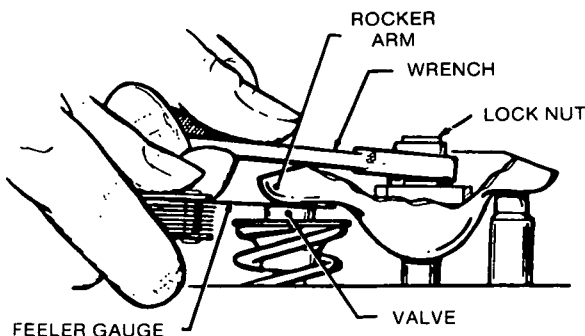

FIGURE 19. CHECKING VALVE CLEARANCE
4. Check valve clearance with a feeler gauge between the rocker arm and the valve (Figure 19). Increase or reduce the clearance until the proper gap is established. Correct valve clearance (engine cold) is .020 inches (0.51 mm) for both the intake and exhaust valves.